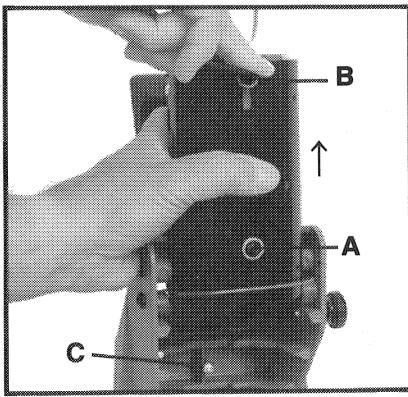

Fig. 3
5. Engage the transport lock in the DOWN position before moving or storing the Pocket Cutter®. TO ENGAGE: Push motor unit down against the motor stop screw (see Fig. 3) and hold while turning the lock knob clockwise until tight.
2. Tilt motor unit upside-down (see Fig. 3) and hold while loosening lower motor mounting screw (B) and sliding motor UP to the maximum depth-of-cut position; tighten lower motor mounting screw.
1. Tilt motor unit up and hold while loosening lower motor mounting screw (C) Fig. 3.